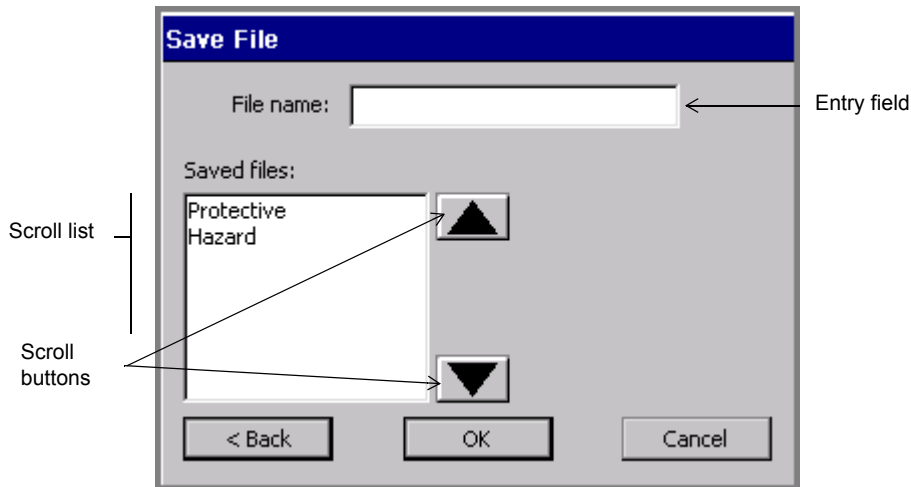
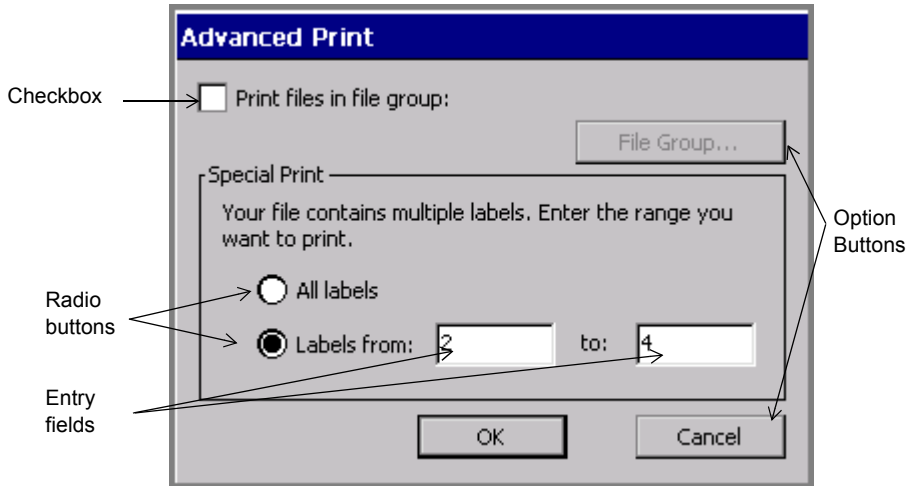
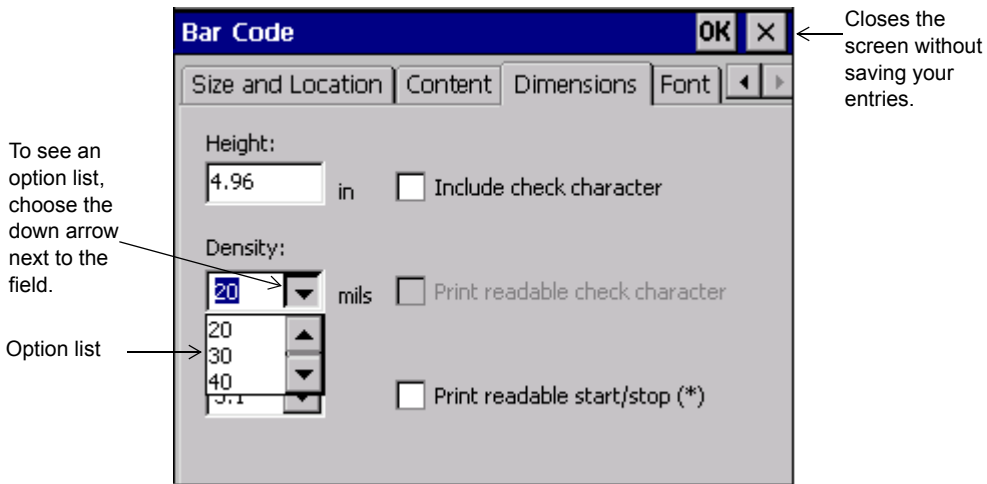

Figure 4-6. The Save File entry screen.
Figure 4-7. The Advanced print entry screen.
Figure 4-8. The Bar Code screen, Dimensions Tab.
Screens usually contain one or more of these information entry devices, as shown in Figure 4-6 on page 4-12 and Figure 4-7 on page 4-13.
An example of another type of entry field is the **Labels from** field in Figure 4-7 on page 4-13. In this field, you enter the beginning and end number for the range of labels you want to print. This type of entry field is activated only when
Touch an option button to implement the command or function listed on the button. For instance, in Figure 4-7, the **File Group** button is disabled, but when it is active it takes you to the **File Group** screen, where you choose a File Group to print. The **Cancel** button cancels any entries you made on the **Advanced Print** screen, and returns you to a previous screen.
Figure 4-6 on page 4-12 shows an example of a scroll list. Scroll lists contain lists of items for you to choose from. To make your choice, you can move up and down the list using the scroll buttons, which are also shown in Figure 4-6. When you find the item you want, touch or select it to choose it.
Checkboxes with checkmarks inside indicate that an option is enabled. Empty checkboxes indicate the option is not enabled. Figure 4-7 shows an example of a checkbox.
For example, in Figure 4-7, check the **Print Files in Group** option checkbox to indicate that you want to print a group of files all at once. Leaving it unchecked indicates that you accept the default status, which is printing a single file.
Radio buttons are empty circles when not in use, and circles with dots inside when activated. Figure 4-7 shows examples of radio buttons.
- The **OK** button may be at the top right of the entry screen, as shown in Figure 4-8, or it may be a full-sized button near the bottom of the screen, as shown in Figure 4-7.
- Press or choose the **X** button, as shown in Figure 4-8.
- Press or choose **Cancel**, as shown in Figure 4-7.